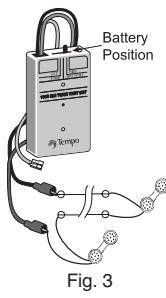

Fig. 3
- If a source of "talk" battery is required, place the slide switch in the "BATTERY" position. Then connect Lineman's Test Sets or telephones in series with the Test Set lead as shown in Figure 3.